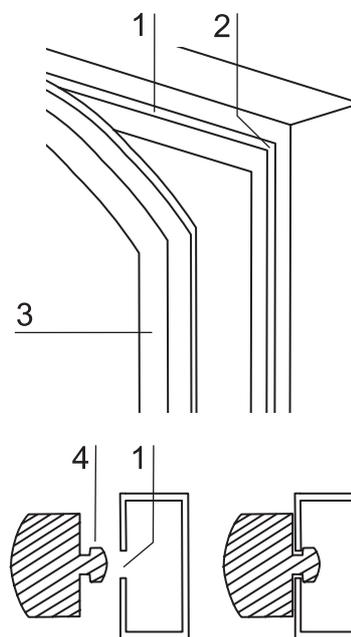

Fig. 27
1. **Fig. 27:** Pull magnetic seal [3] out of the guide slot [1].